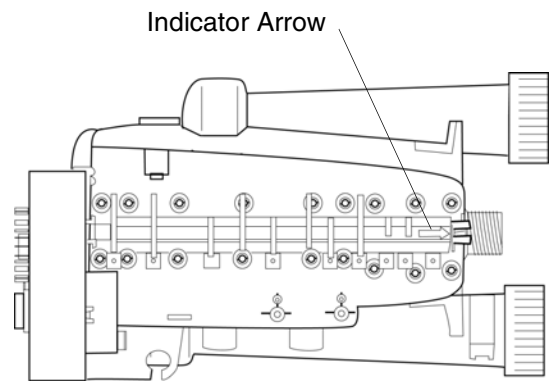

Figure 13
3. Align the indicator arrow on the rear of the camshaft with the top of the rear hoop of the top plate (Figure 13).